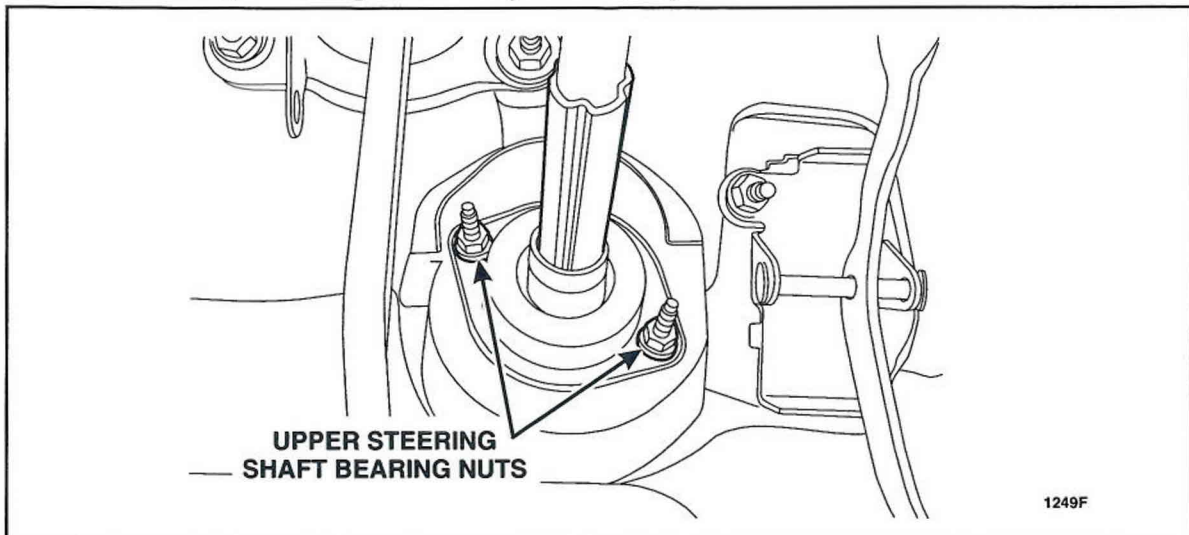

FIGURE 2
3. Remove the 2 upper steering shaft bearing nuts. See Figure 2.
8. Install the 2 upper steering shaft bearing nuts. See Figure 2.